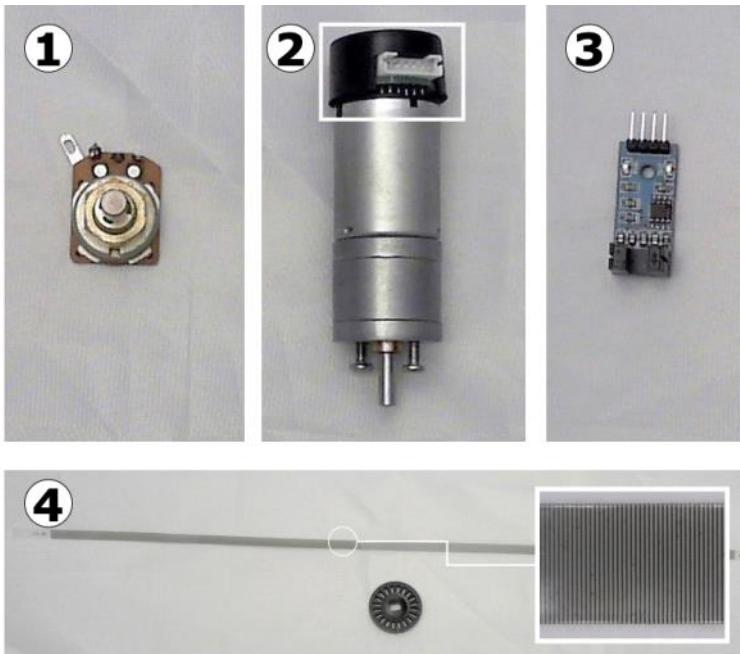

Figure 11.1 – Encoder sensors
*Figure 11.1* shows four different encoder sensors, each of which uses different mechanisms to measure movement (1–3), along with an encoder wheel and strip in panel 4:
These sensors fall into a few categories, as shown in *Figure 11.1*, and correspond to the points that follow: